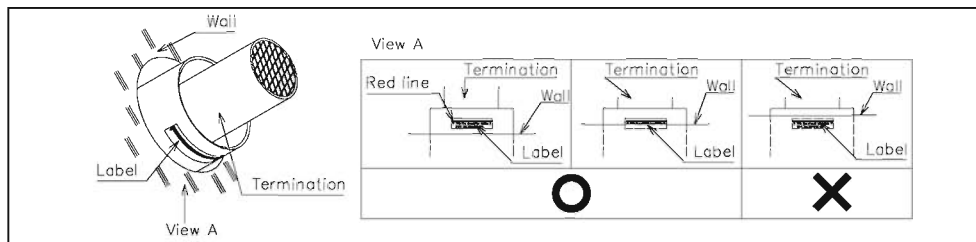

Fig.3-1 Position of the label with red line
4. Check wall thickness where the vent system passes through. Select suitable kit according to Table 1. In standard case, use CVK-H or CVK-H-F. In the optional case with thicker wall (wall thickness 11.4 – 16.7 in), use CVK-H2 or CVK-H2-F. To fix horizontal adjustable mechanism, open the hole with 1/8in diameter and fasten them by appropriate screw (ex. metal screw pan head #8-1/4). Adjust the length of the combination of the parts so that the end of the air intake part of the Termination protrudes about 0.8" from the wall. Make sure the label with red line on the air intake of termination should be downward, so that the red line of the label can be seen from the exterior wall. (See Fig 3-1)